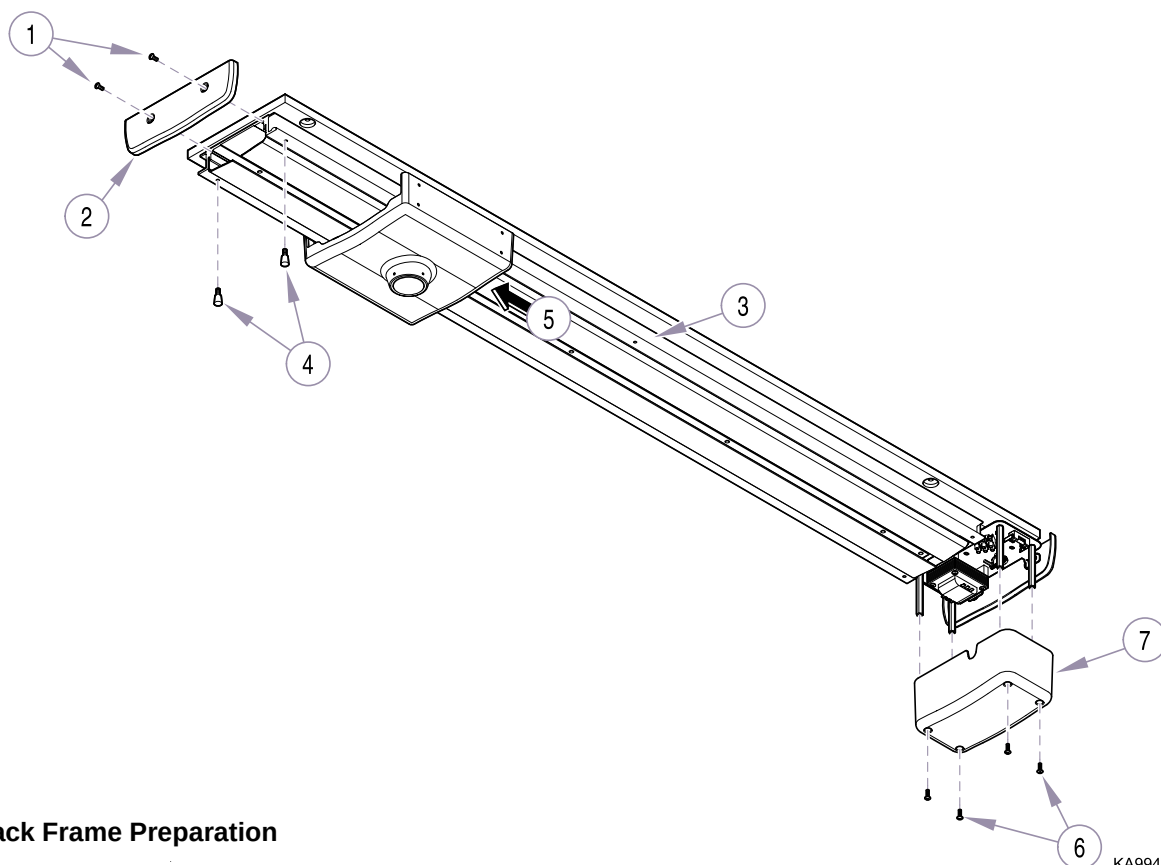
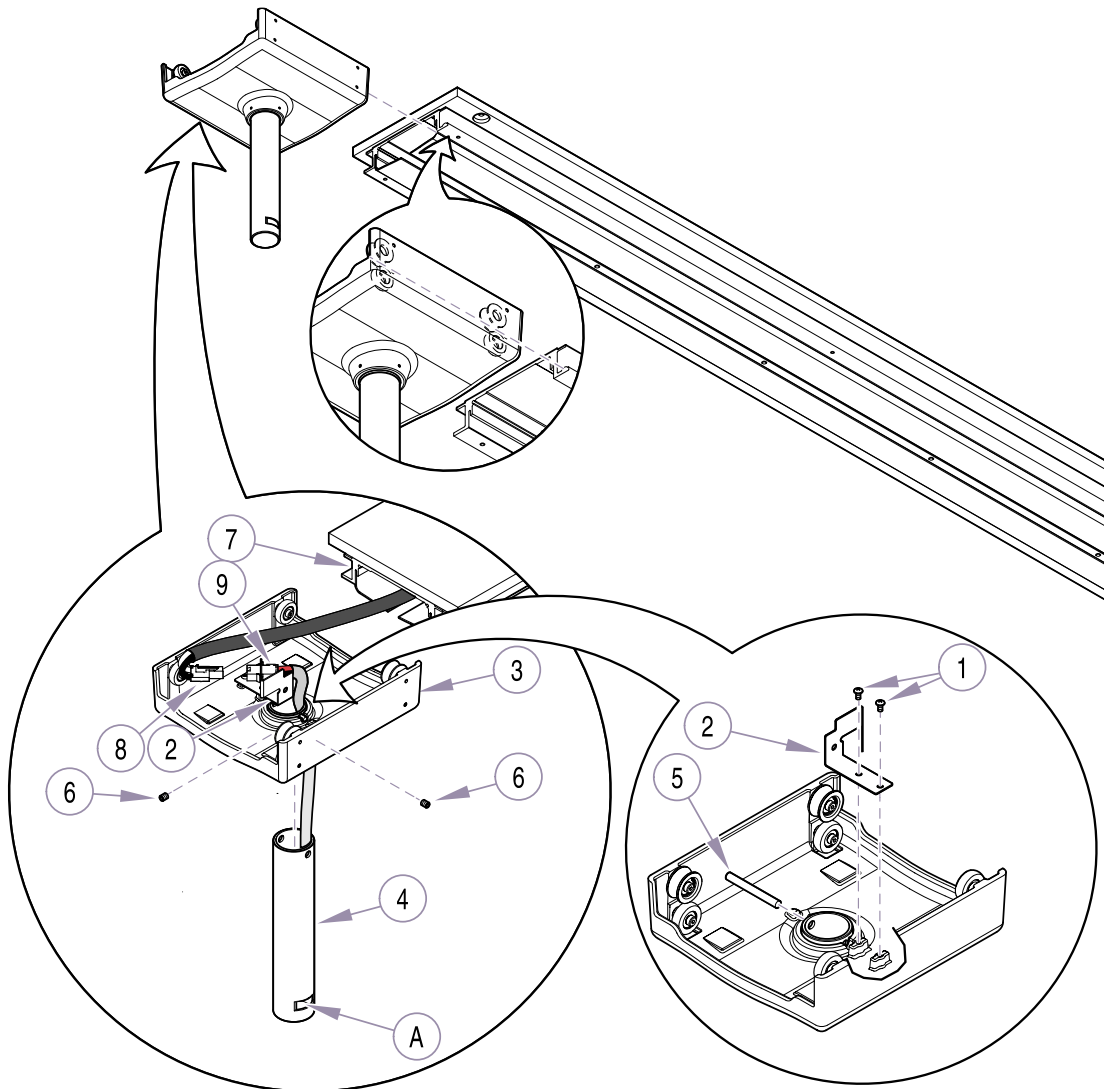

Figure 4. Track Frame Preparation
Figure 6. Trolley Installation
(1) Remove two screws (1, Figure 4) and end cap (2) from track (3).
(2) Unscrew two bumpers (4) from track (3).
(3) Remove trolley assembly (5) from track (3).
(4) Remove four screws (6) and transformer cover (7) from track (3).
Ensure clevis pin (5, Figure 6) is installed in place and is secure. Failure to do so could allow light arm to separate from trolley, resulting in serious personal injury to patient or staff.
For LH installations, the window (A, Figure 6) in suspension tube (4) should be facing **opposite** the harness bracket (2). For RH installations, the window (A) in suspension tube (4) should be facing **toward** the harness bracket (2).
- (1) Remove two screws (1, Figure 6) and temporarily separate harness bracket (2) from trolley (3).
- (2) Install suspension tube (4) on trolley (3) and secure with clevis pin (5). Then, tighten two setscrews (6).
- (3) Position harness bracket (2) on trolley (3) and secure with two screws (1).
- (4) Position trolley (3) near end of track (7); then connect track harness (8) to trolley receptacle (9).
- (5) Install trolley (3) on track (7); it can only be installed one way.
- (6) Install end cap (2, Figure 4) on track (3) and secure with two screws (1).
- (7) Install two bumpers (4) on track (3).